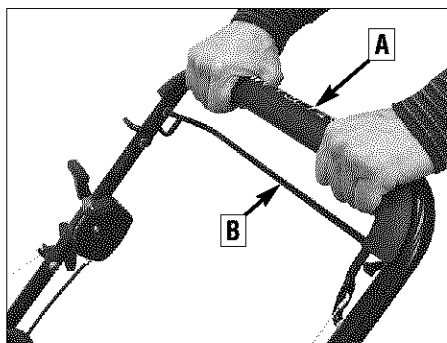

Figure 4-7 : Disengaging the wheels with engine running.
- Low Speed (1) - is engaged when the lever is pulled all the way back. Low speed provides the most efficient cut.
- Medium Speed (2) - is engaged when the lever is moved to the middle detent position (the control lever will click into place). This speed is a good compromise for speed and cutting performance.
- High Speed (3) - is engaged when the lever is pushed all the way forward. High speed enables you to cover the cutting area more quickly, but may result in a less efficient cut. This speed is most effective on short, thin grass.
3. Pull the Wheel Drive Bail (B, Figure 4-7) up against the handlebar to power the rear wheels and move forward.
NOTE: Release the Wheel Drive Bail and continue to hold the Operator Presence Control Bail (A, Figure 4-7) to pause during mowing with the engine running, or to maneuver in tight conditions.
1. For short turns, release the Wheel Drive Bail (B, Figure 4-7) but continue to hold the Operator Presence Control Bail (A). This disengages the wheel drive, but the engine continues to run.